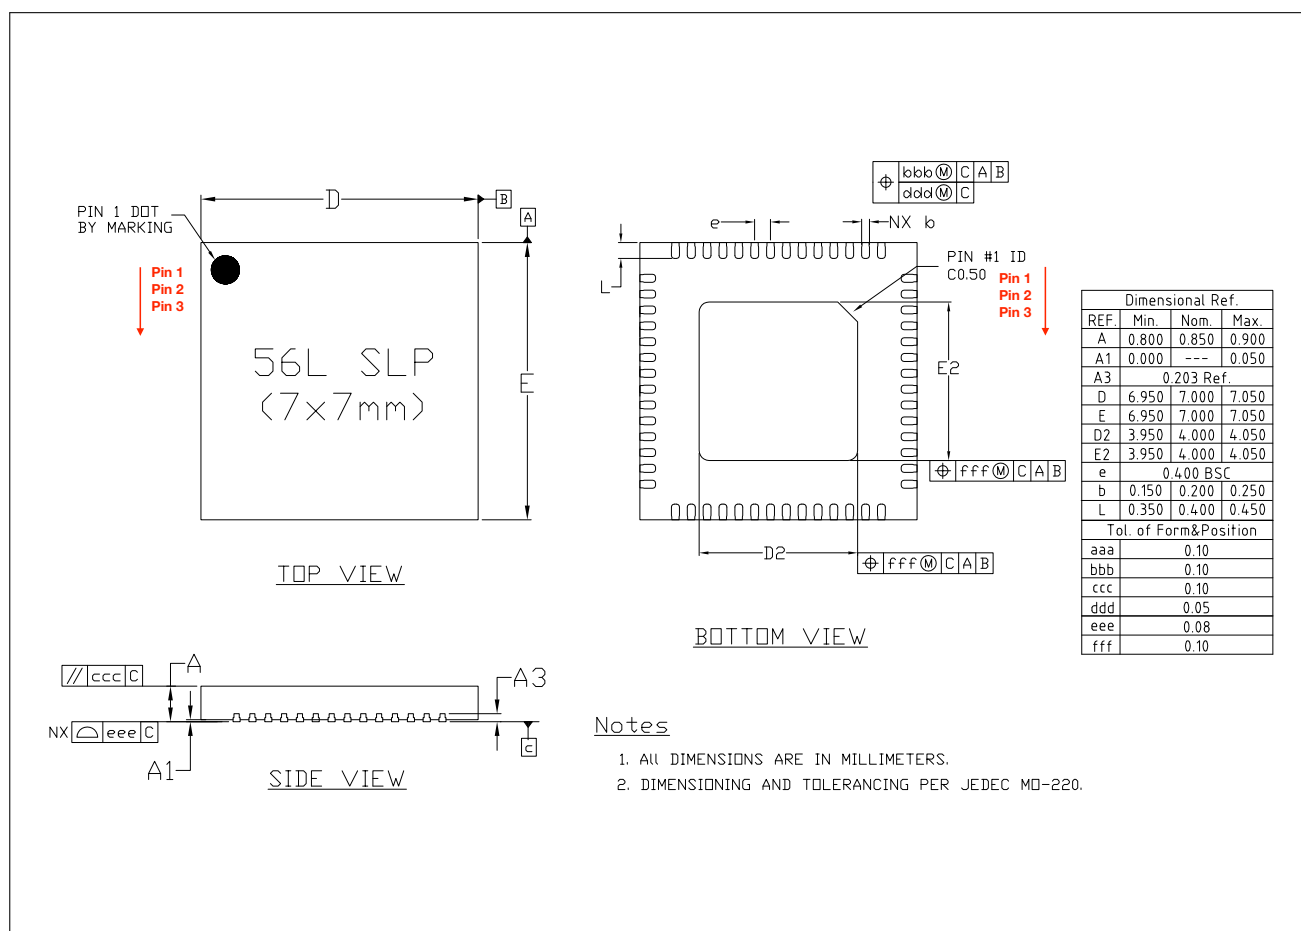
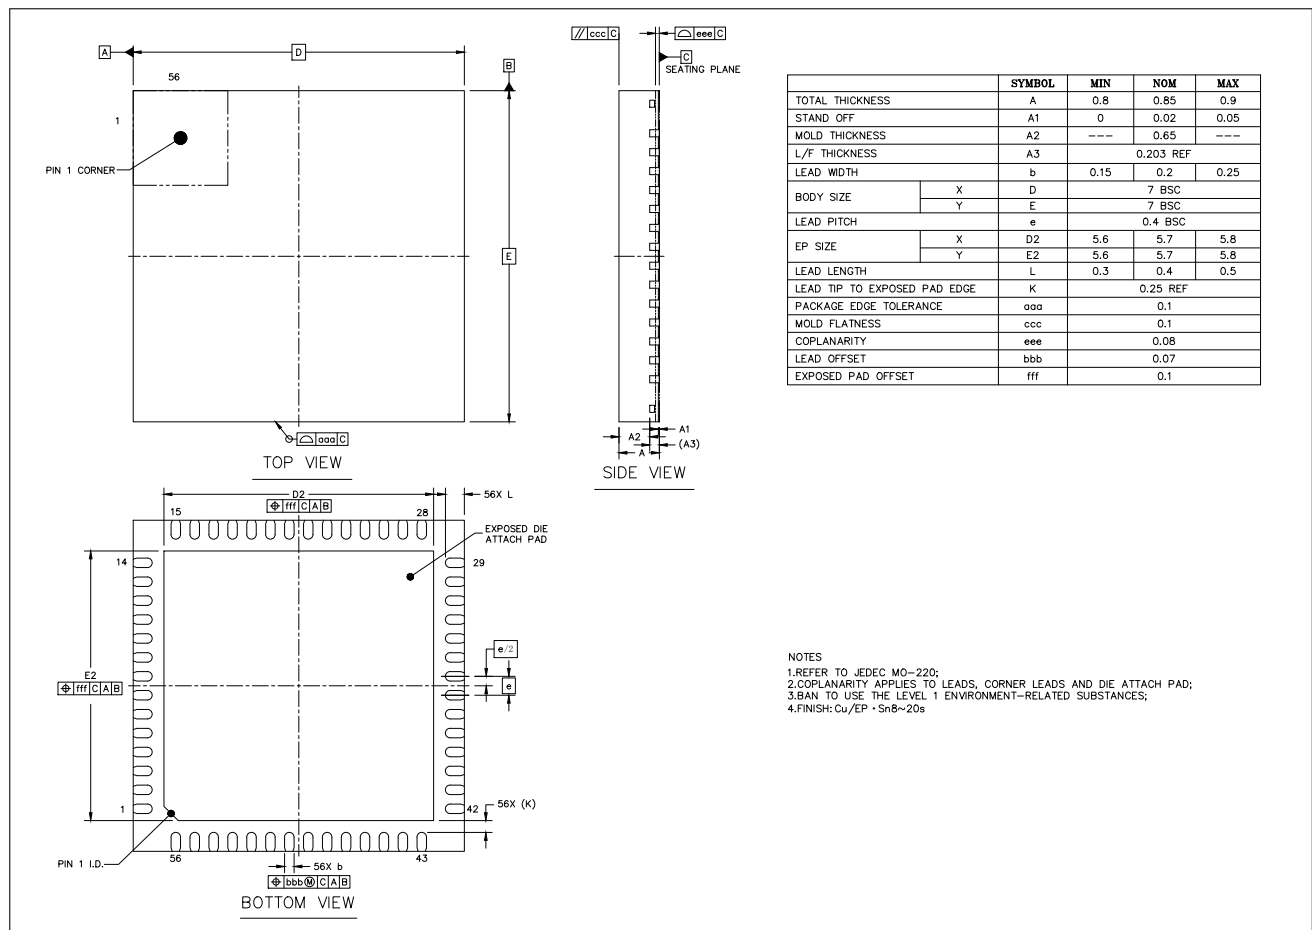

Figure 7-1. QFN56 (7x7 mm) Package
Figure 7-2. QFN56 (7x7 mm) Package (Only for ESP32-S3FH4R2)
- All ESP32-S3 chip variants have identical land pattern (see Figure 7-1) except ESP32-S3FH4R2 has a bigger EPAD (see Figure 7-2). The source file \(dxf\) may be adopted for ESP32-S3FH4R2 by altering the size of the EPAD (see dimensions D2 and E2 in Figure 7-2).